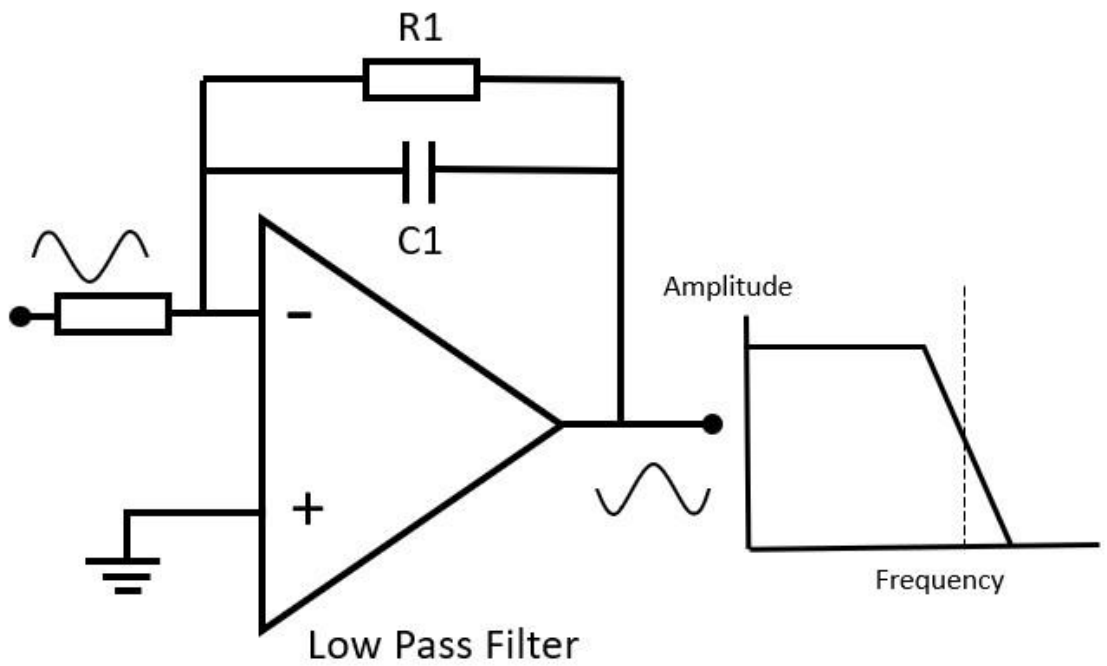

Figure 10: Low Pass Filter.
- The Low pass filter is a unity gain amplifier passing the frequencies lower than that determined by R_1 and C_1 (Figure 10).